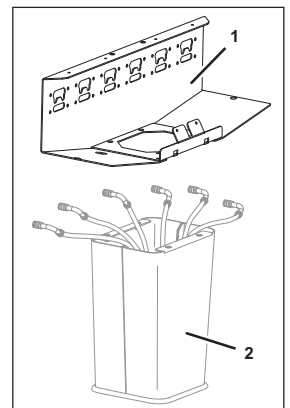

Fig. 42
- Lift the dispensing valve support (Fig. 42/1).
- Pull out the tubes and electrical cables through the opening in the dispensing valve support (Fig. 42/1) in a downward motion.
- Lift and remove the dispensing valve support (Fig. 42/1) from the stand (Fig. 42/2).
- Feed the tubes and electrical cables through the opening in the dispensing valve support (Fig. 42/1) in an upward motion.
- Position the new dispensing valve support (Fig. 42/1) on the stand (Fig. 42/2).